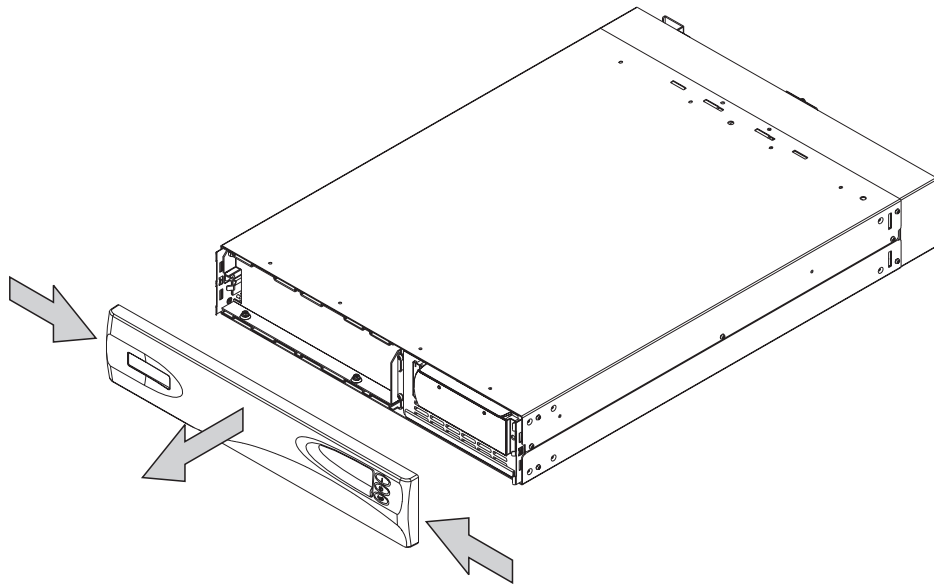

Figure 266. Removing the front panel of the 2145 UPS
3. Remove the front panel by pressing the sides inward and pulling both ends towards you, as shown in Figure 266 on page 270.